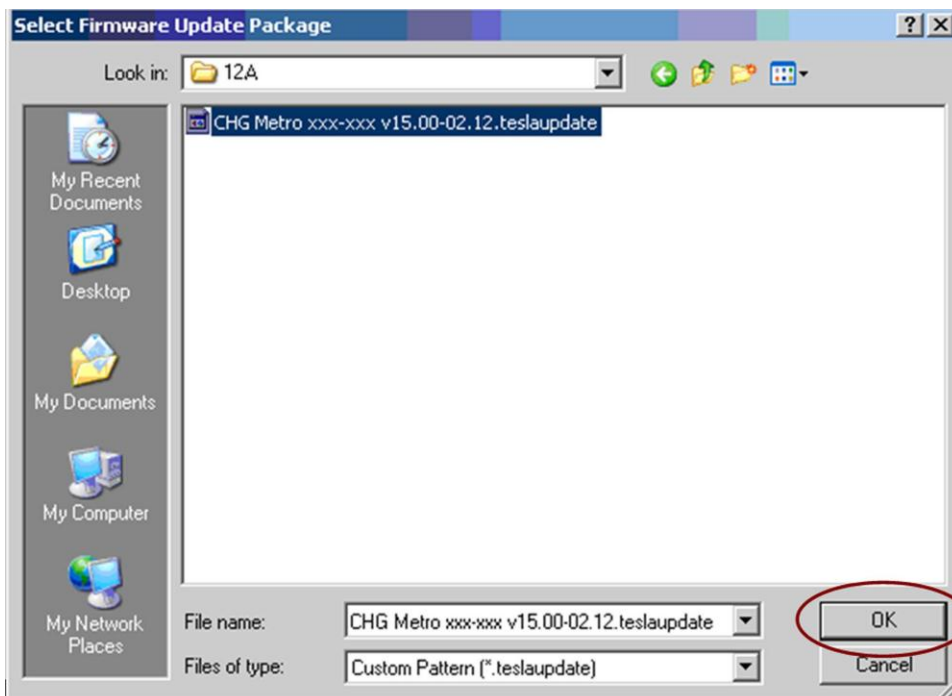

Figure 10
- Select File: CHG Metro xxx-xxx v15.00-12.teslaupdate and confirm with OK (circled, Figure 10)